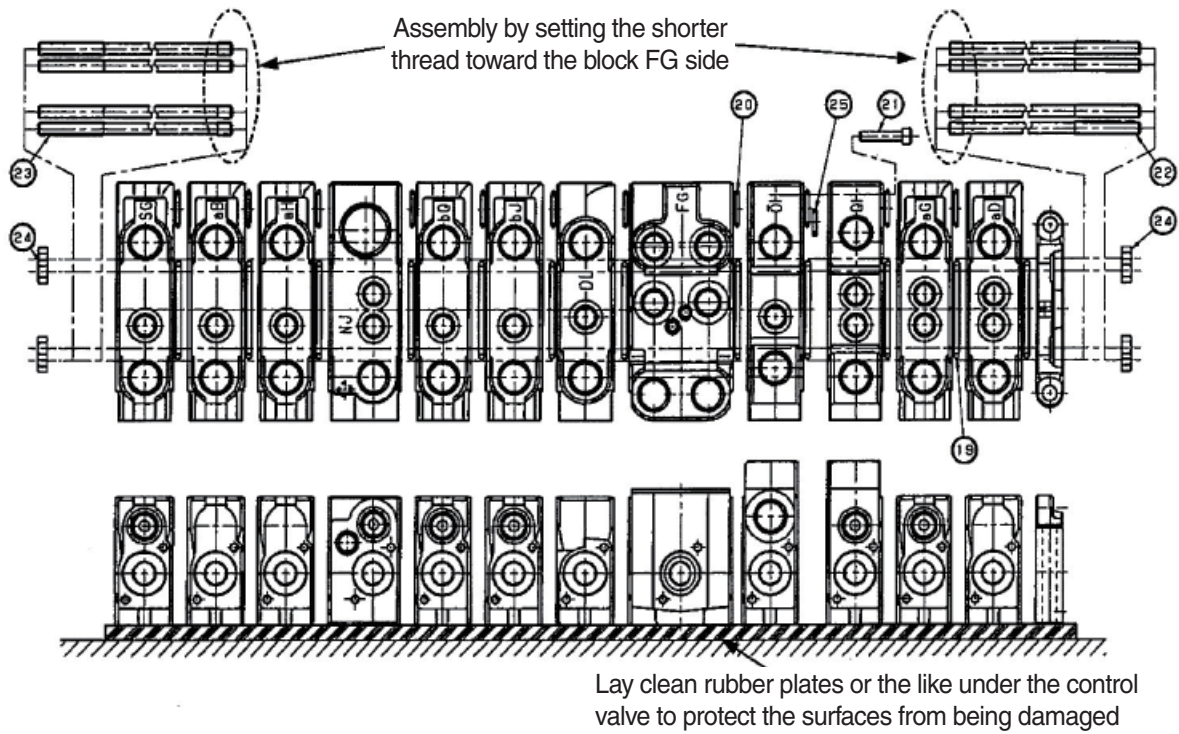

Figure 10. Block assy
##### (1) Assembling block (see figure 10 and 11)
- ① On a surface plate with clean rubber plates on it, place blocks with actuator port surface facing upward in the order shown in "Orders of assembling bodies" on the next page.